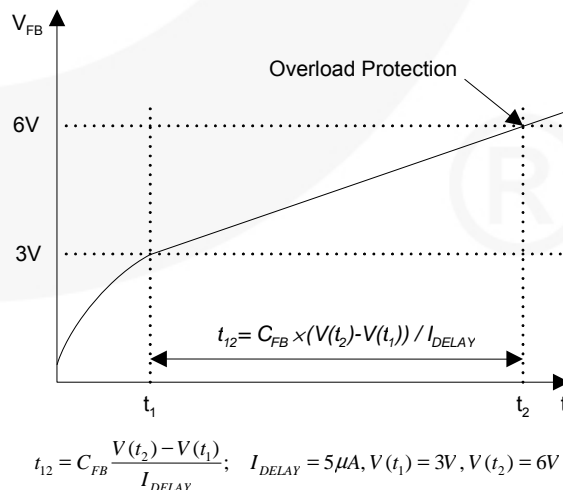

Figure 15. Overload Protection (OLP)
4.1 Overload Protection (OLP): Overload is defined as the load current exceeding a pre-set level due to an unexpected event. In this situation, the protection circuit should be activated to protect the SMPS. However, even when the SMPS is operating normally, the Overload Protection (OLP) circuit can be activated during the load transition. To avoid this undesired operation, the OLP circuit is designed to be activated after a specified time to determine whether it is a transient situation or a true overload situation. In conjunction with the I_{pk} current limit pin (if used), the Current Mode feedback path would limit the current in the SenseFET when the maximum PWM duty cycle is attained. If the output consumes more than this maximum power, the output voltage (V_O) decreases below its nominal voltage. This reduces the current through the optocoupler LED, which also reduces the optocoupler transistor current, thus increasing the feedback voltage (V_{FB}). If V_{FB} exceeds 3V, the feedback input diode is blocked and the $5\mu A$ current source (I_{DELAY}) starts to slowly charge C_{th} up to V_{CC} . In this condition, V_{FB} increases until it reaches 6V, when the switching operation is terminated (as shown in Figure 15). The shutdown delay s the time required to charge C_{th} from 3V to 6V with $5\mu A$ current source.